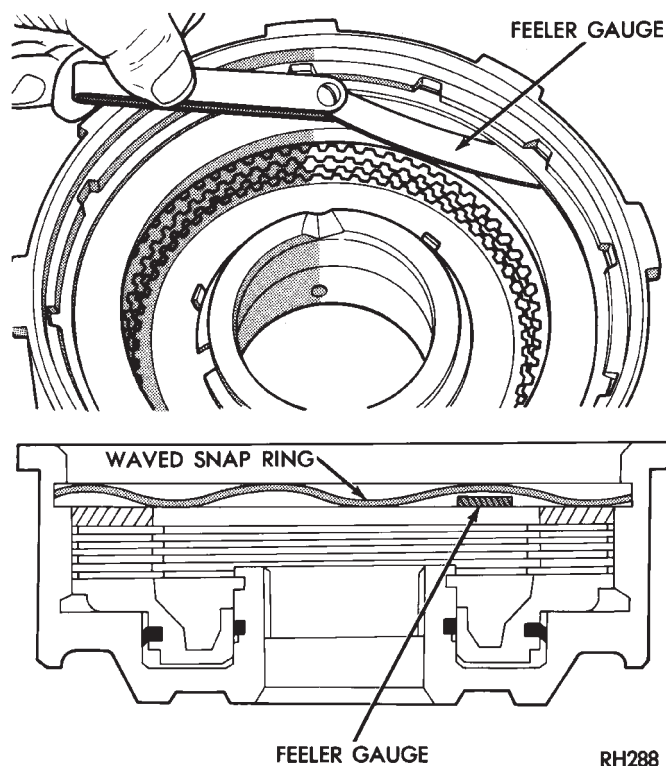

Fig. 64 Measuring Front Clutch Pack Clearance
(7) Compress piston spring and retainer with Compressor Tool C-3575-A (Fig. 64). Then install new snap ring to secure spring retainer and spring.
(10) Check clutch plate clearance (Fig. 64). Clearance should be 1.70 to 3.40 mm (0.067 to 0.134 in.). If clearance is incorrect, clutch discs, plates pressure plates and snap ring may have to be changed.